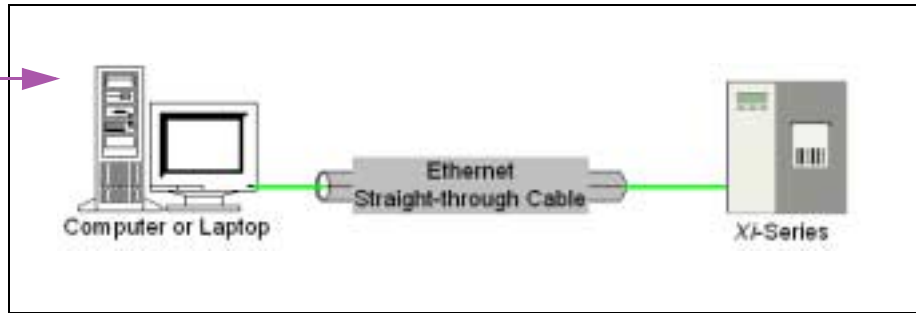

Figure 3• Straight-through cable environment
- If you are connecting your printer to a computer or laptop, complete the callout illustration step in *Figure 3* below.